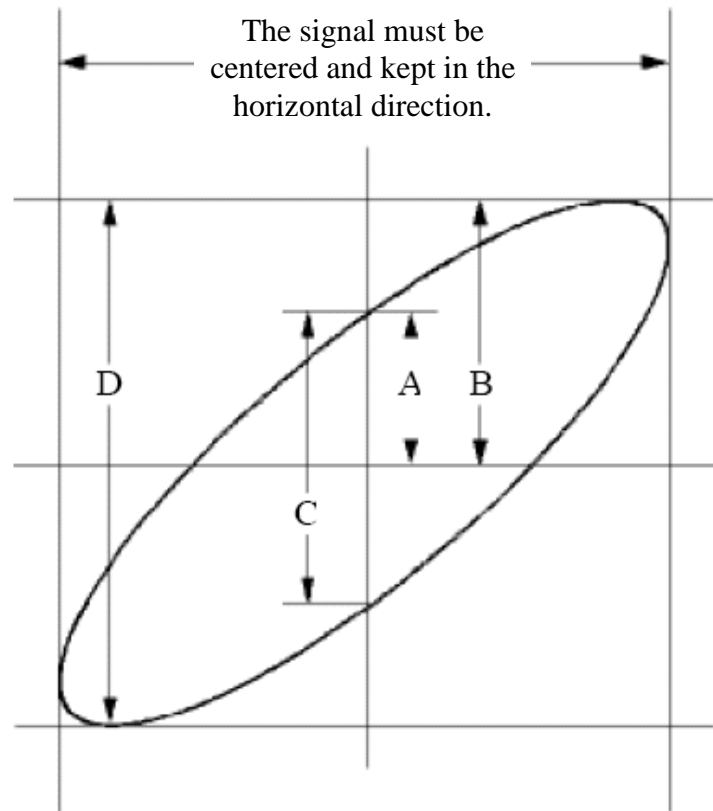

Figure 0-6 Lissajous Graph
- (1) Set the probe menu attenuation coefficient for **10X** and that of the switch in the probe for **10X** (see "*How to Set the Probe Attenuation Coefficient*" on P11).
- (2) Connect the probe of channel 1 to the input of the network and that of Channel 2 to the output of the network.
- (3) Push the **Autoset** button, with the oscilloscope turning on the signals of the two channels and displaying them in the screen.
- (4) Turn the **Vertical Scale** knob, making the amplitudes of two signals equal in the rough.
- (5) Push the **Acquire** button to display the right menu.
- (6) In the right menu, select **XY Mode** as **ON**. The oscilloscope will display the input and terminal characteristics of the network in the Lissajous graph form.
- (7) Turn the **Vertical Scale** and **Vertical Position** knobs, optimizing the waveform.
- (8) With the elliptical oscillogram method adopted, observe and calculate the phase difference (see *Figure 0-6*).